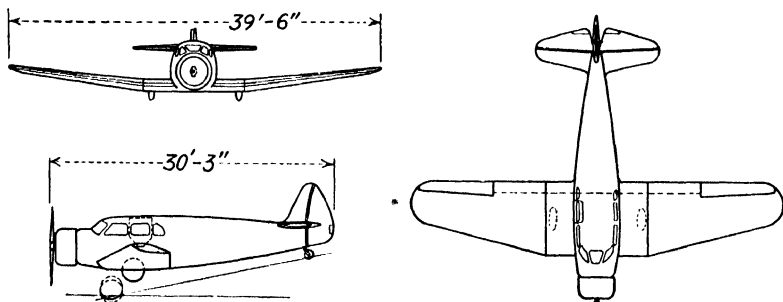

Fig. 47.—Fairchild F-45. (Courtesy of Aviation.)
11. What are the span and length of the Fairchild F-45 (Fig. 47) in inches?